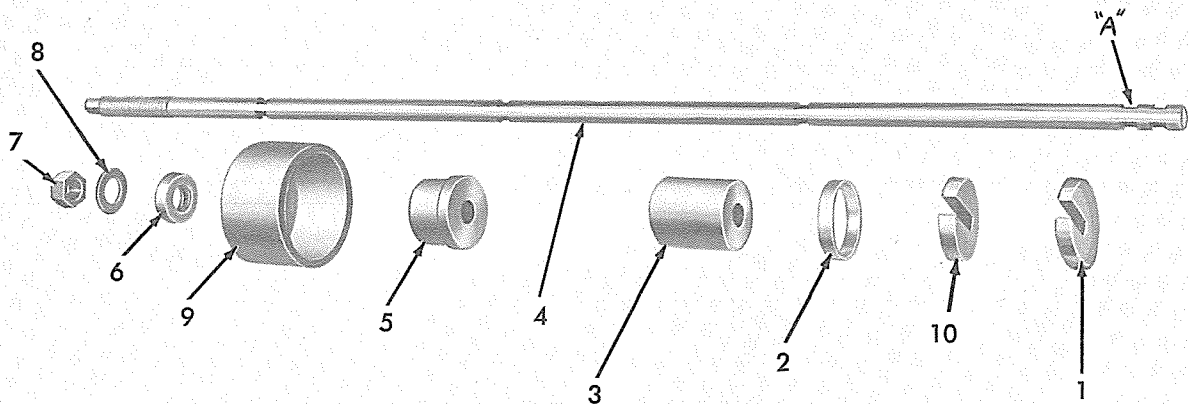
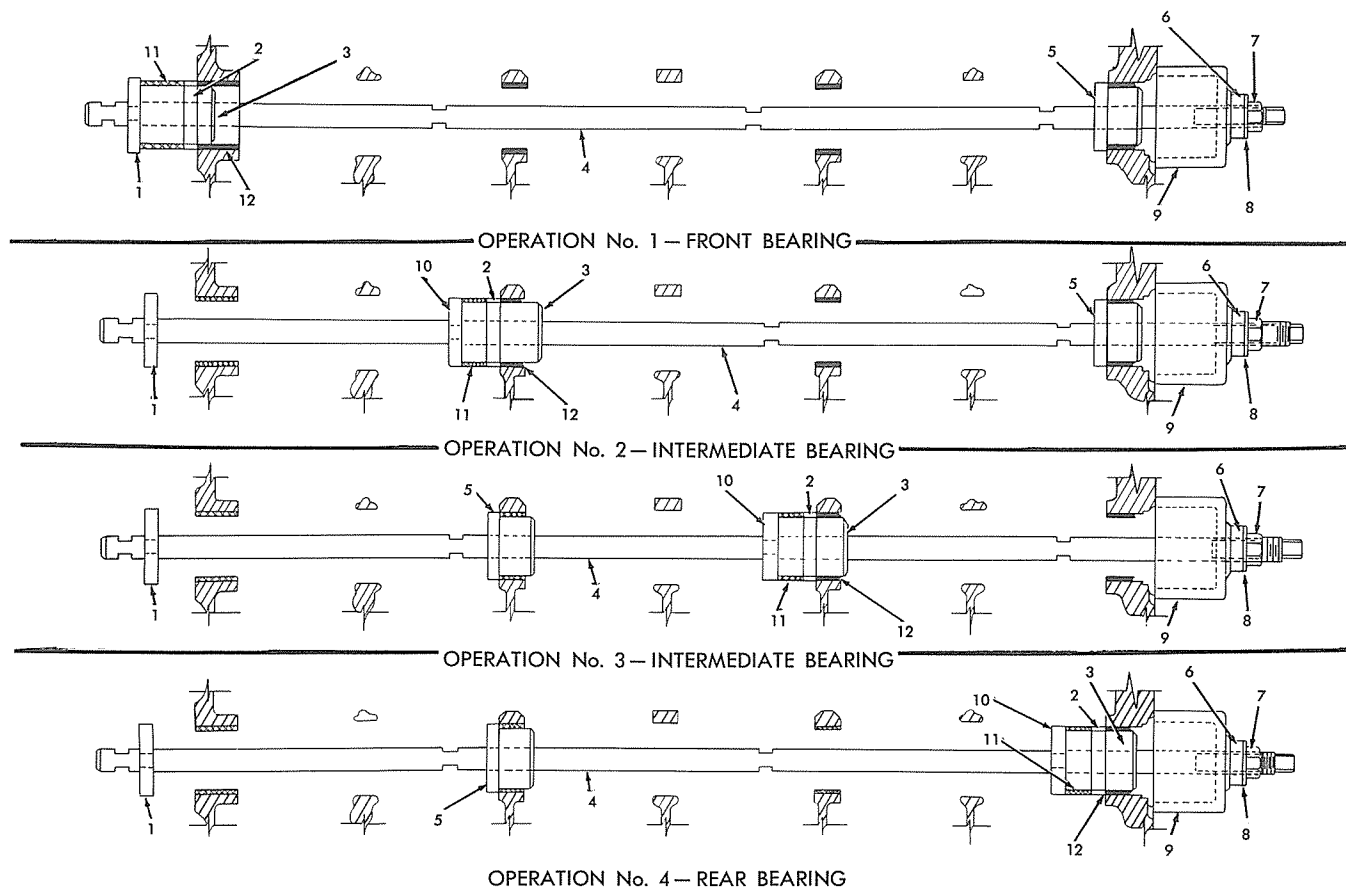

Fig. 5 — Camshaft Bearing Removing and Installing Tool Set (T-20252)
Fig. 6 — Sequence of Operations for Removing and Installing Camshaft Bearings
7. Using a camshaft bearing removing and installing set similar to the one shown in Fig. 5, proceed as shown in Fig. 6 to remove the old and install new camshaft bearings.
- a. Each camshaft bearing has an oil groove machined into the outer circumference. The notches in the puller shaft, Fig. 6 (4), are accurately located so that when the stop plate (1) is tight against the front end of the cylinder block the oil groove in the new bearing is automatically aligned with the oil supply hole in the cylinder block.